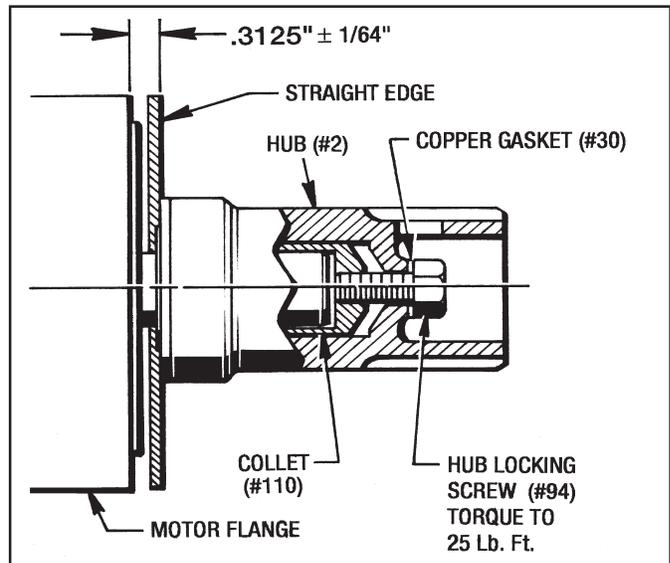

Figure 3.2 - Hub Alignment
1. Holding a straight edge across the face of the Hub, measure from the straight edge to the motor mounting face. It should measure 5/16" Adjust if necessary. (See *Figure 3.2*)